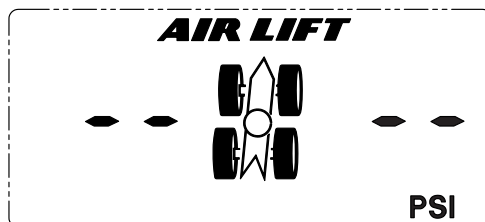

fig. 19
- Press the MIDDLE button on the navigation pad to complete the joining. Now the display will read "----" or "5 5" (fig. 19 or fig. 20).